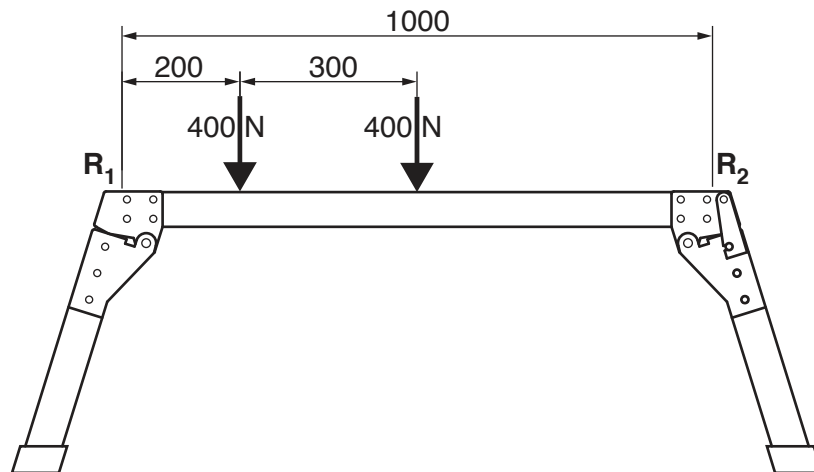

Fig. 8
- (iii) Fig. 8 shows the work platform with the loads from a user shown in position.